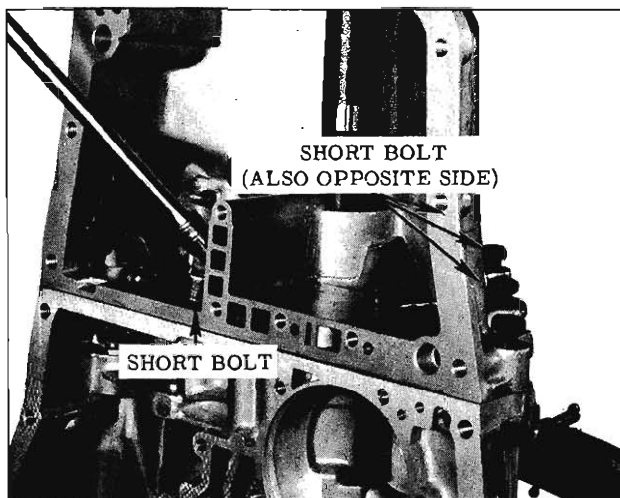

Fig. 6-106 Rear Bearing Retainer Bolts
9. Install eight rear bearing retainer to case attaching bolts as shown in Fig. 6-106. Torque all bolts 20 to 25 ft. lbs.